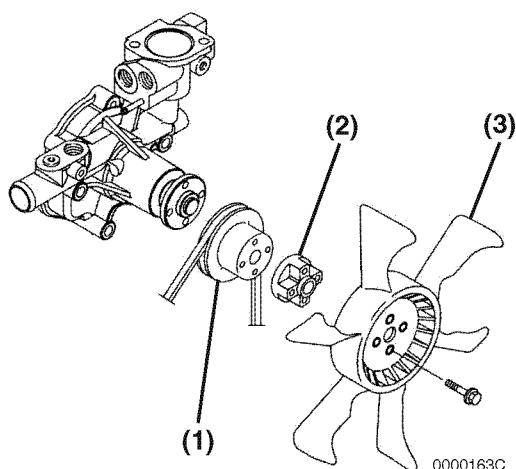

Figure 9-4
1. Remove the engine coolant fan guard (if equipped), engine coolant fan (**Figure 9-4, (3)**), spacer (**Figure 9-4, (2)**), engine coolant pump V-pulley (**Figure 9-4, (1)**) and V-belt.